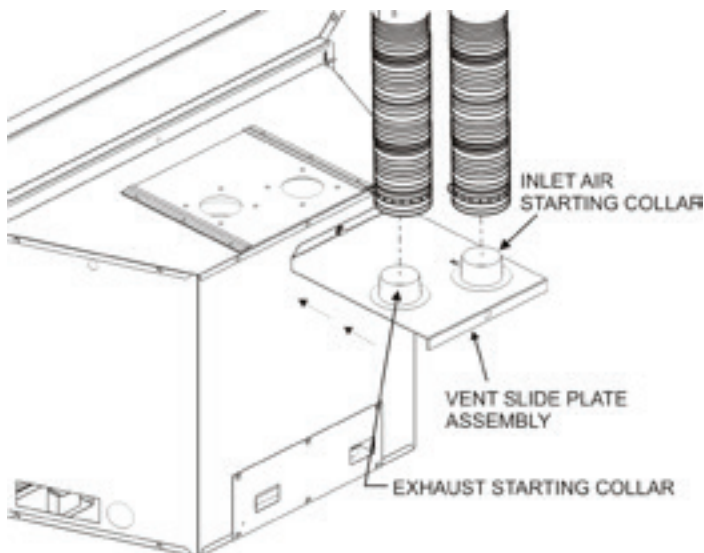

Figure 9
3. Remove the vent slide plate assembly from the top of the insert. See Figure 9.